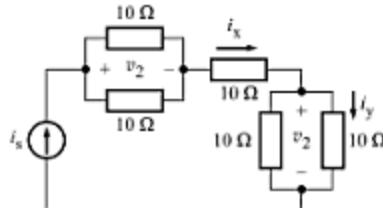

Fig. A-87
- A-49.** Refer to the circuit of Fig. A-87. (a) If $i_x = 5 \text{ A}$, find v_1 and i_y . (b) If $v_1 = 3 \text{ V}$, find i_x and i_y .